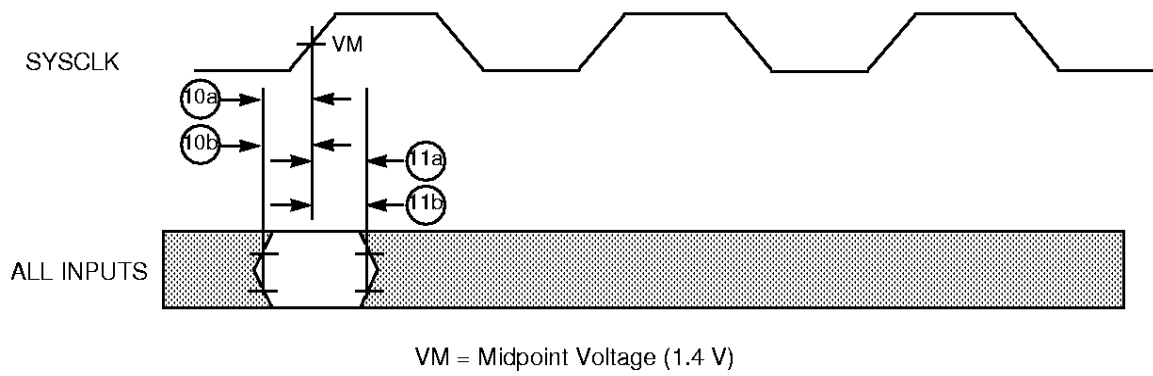
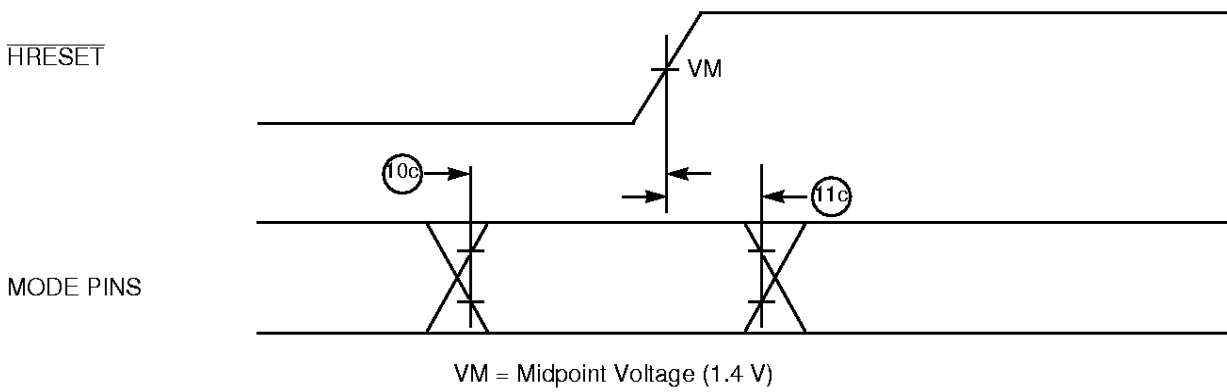

Figure 2. Input Timing Diagram
Figure 3. Mode Select Input Timing Diagram
Table 7 provides the input AC timing specifications for the 603e as defined in Figure 2 and Figure 3.
1. All input specifications are measured from the TTL level (0.8 or 2.0 V) of the signal in question to the 1.4 V of the rising edge of the input SYSCLK (see Figure 2). Both input and output timings are measured at the pin.
4. The setup and hold time is with respect to the rising edge of $\overline{\text{HRESET}}$ (see Figure 3).
Figure 2 provides the input timing diagram for the 603e.
Figure 3 provides the mode select input timing diagram for the 603e.